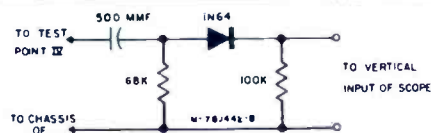

FIGURE 4. DETECTOR NETWORK
- Connect detector network (Figure 4) to Test Point IV and set contrast to maximum. Connect oscilloscope to network.